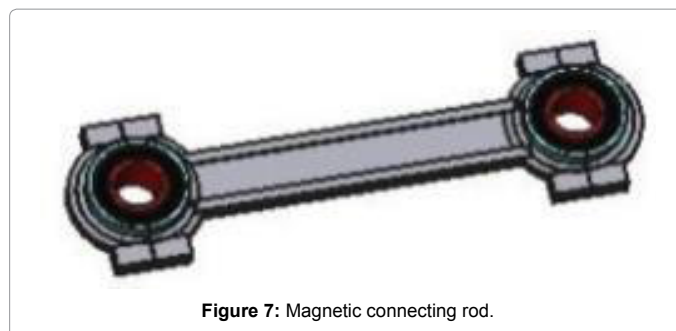

Figure 7: Magnetic connecting rod.
**Magnetic connecting rod:** The Electrodynamic Bearings are used at both ends of the Connecting Rod. The Connecting Rod connects the crankshaft to the Magnetic Chamber. The Electrodynamic Bearings are Magnetic Bearings that uses permanent magnets (Figure 7).